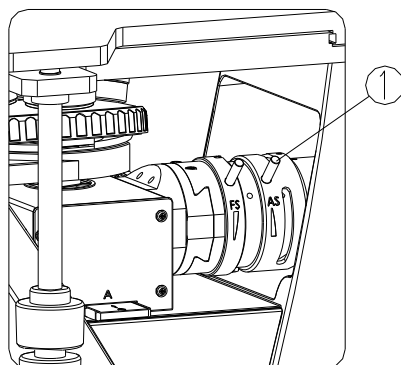

Figure-6 Aperture Diaphragm Adjustment
3.1.2 Adjustment of Aperture Diaphragm (Figure-6)